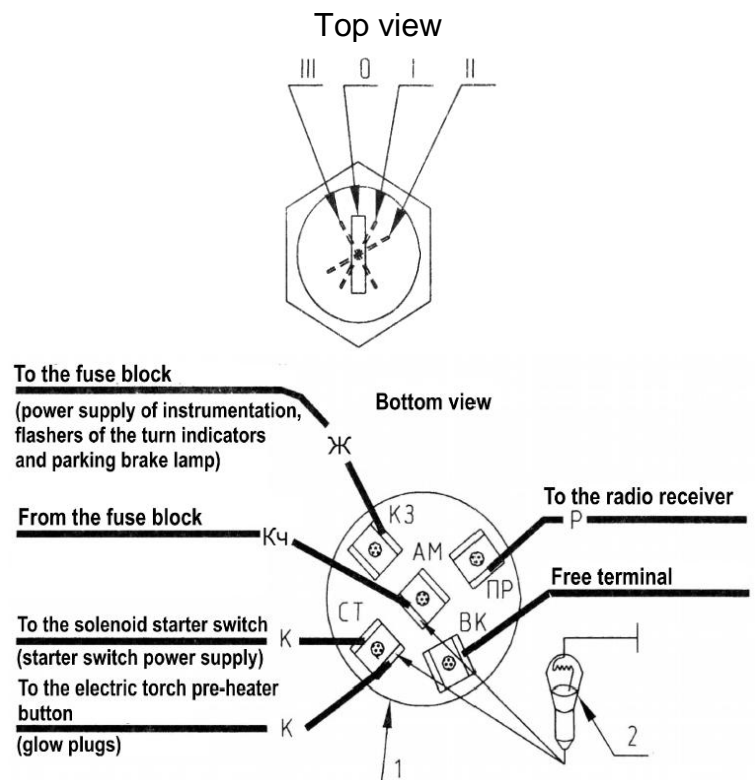

Fig.8. Checking the operability of the starter switch (SA6). For the instrumentation dashboard 80-3805010-Д1.
- b) Check the operability of the starter switch (SA6) by connecting one wire of the test lamp to the body and another wire to the switch terminals in turn (Fig.8 and 9):